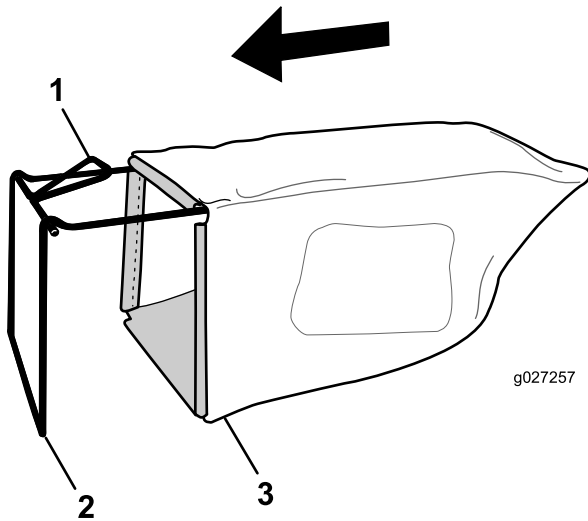

Figure 5
1. Slip the grass bag over the frame as shown in Figure 5.
Note: Do not slip the bag over the handle (Figure 5).